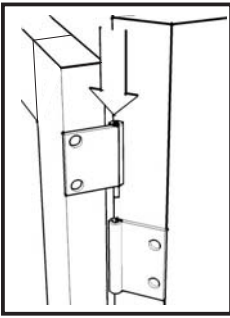

Figure 1
Attach Doors (K) and (L) by sliding the door lift hinges into the side panels lift hinges (See figure 1).
Attach S2 to S3 and S4 using long wood screws (4X), tighten halfway. (see Figure 1)